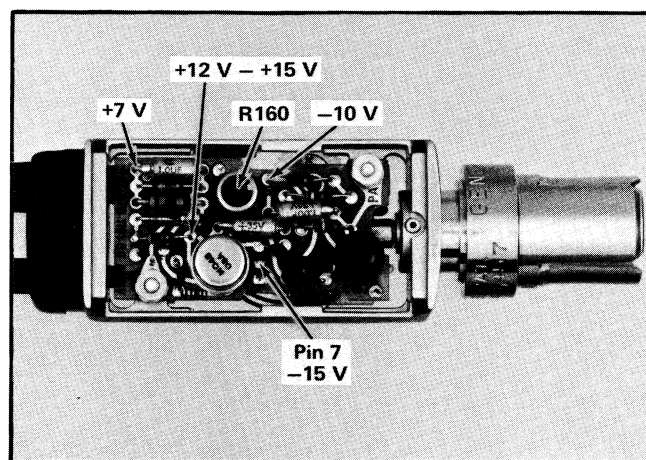

Fig. 5-1. Power regulator test points and output level adjustment.
- b. Remove the bottom cover of the DC offset housing and locate the $+7\ \text{V}$ and $-10\ \text{V}$ test points (see Fig. 5-1).
- d. ADJUST—Remove the cover to the offset housing and adjust R160 (Fig. 5-1) to eliminate any trace offset.